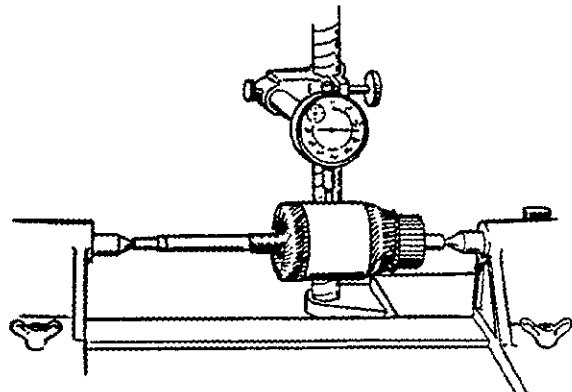

FIGURE 51. CHECKING ARMATURE SHAFT RUNOUT
**Testing Armature Shaft Runout:** The armature shaft as well as the commutator may be checked. A bent armature can often be straightened, but if the shaft is worn, a new armature is required, Figure 51.